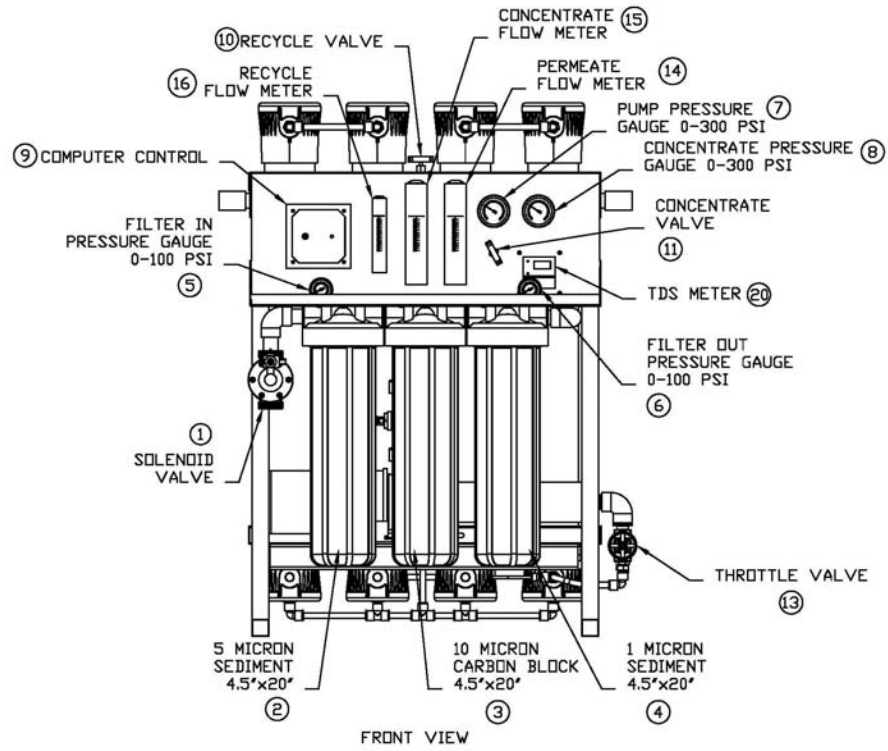

FIGURE 1B
2. Fully open the concentrate valve #11 (Counter Clockwise). (Figure 1B, Page 16)
3. Fully close the recycle valve # 10 (Clockwise) (If Applicable). (Figure 1B, Page 16)
5. Turn the feed water on and let the system purge until no visible bubbles appear from concentrate flow meter #15. (Figure 1B, Page 16)
6. Fully open the throttle valve #13 (Counter Clockwise). (Figure 1B, Page 16)
3. Fully close the recycle valve # 10(Clockwise)(If Applicable). (Figure 1B, Page 16)
4. Fully open the throttle valve #13 (Counter Clockwise). (Figure 1B, Page 16)